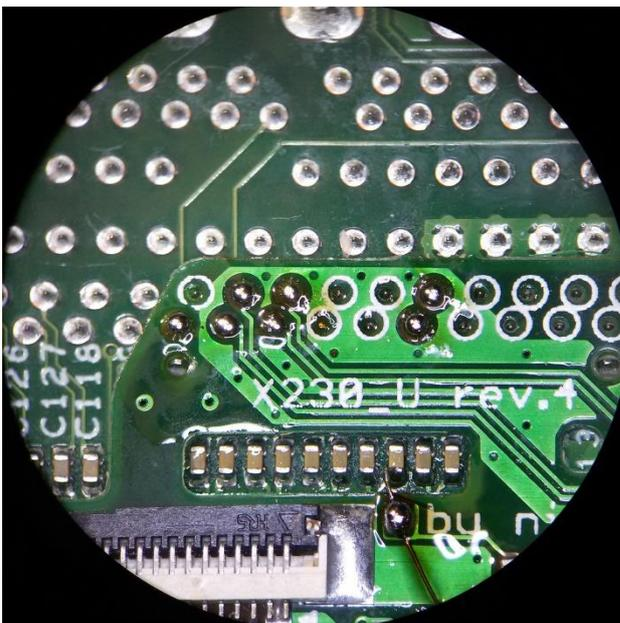

Figure 12. Soldering the sense wire
6. Put some flux on the sense wire pad, then add some solder and push the sense wire against the pad with a tip to remove the enamel (see figure 12);